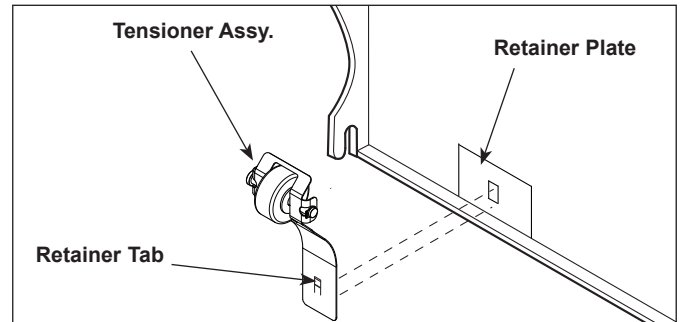

Figure 14. Replacing Roller Tensioner Assy.
**Align the ends of the Belt Wrap properly (Figure 14) or the Belt Wrap may be damaged. Position the Belt Wrap between the upper and lower Support Rods or damage to the unit may occur.**